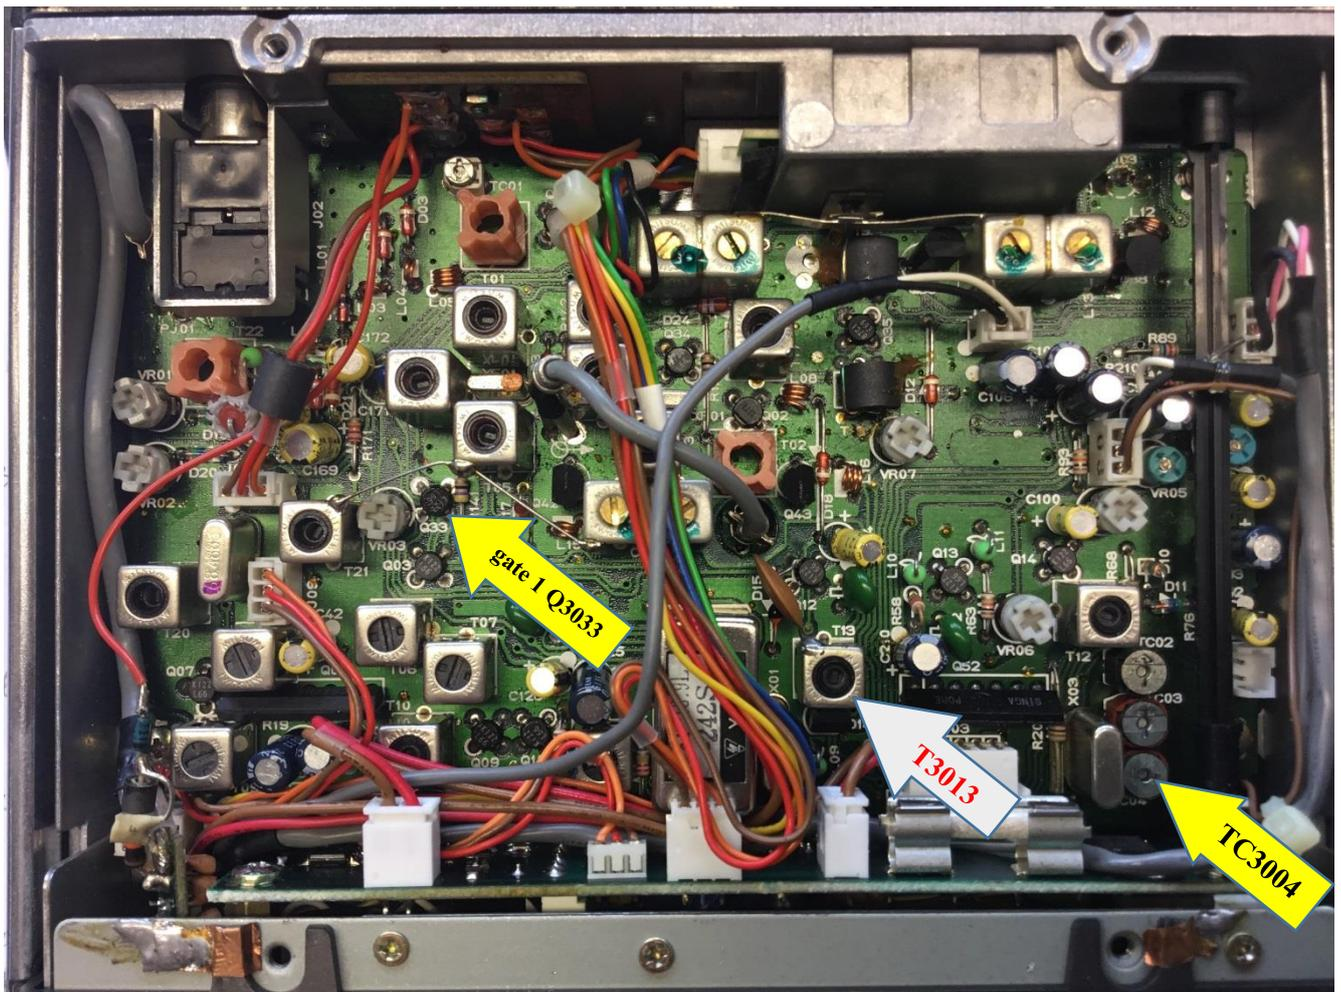

Fig. 5 (Main Board)
- Set the mode to FM, close the PTT line (short pin 6 and 7 of the MIC jack) and adjust **T3013** on the Main Unit for exactly 435,000 000 MHz  $\pm 100$  Hz. (Ref. Fig.5)